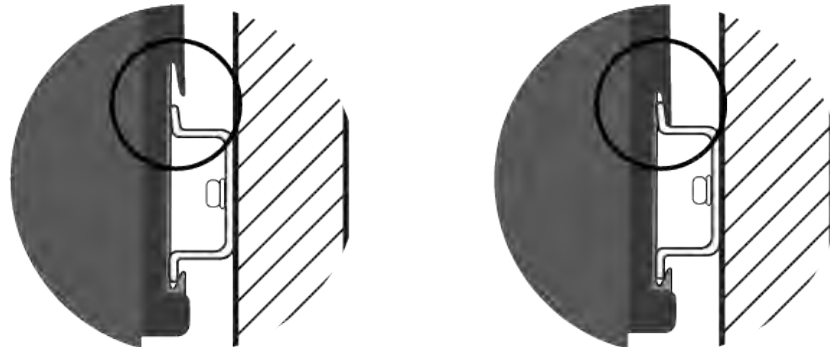

Figure 26. Installing the Switch on a DIN Rail - 3
4. Carefully lower the switch so that the top flange on the DIN rail slides into the top slot of the DIN rail bracket. Refer to Figure 26.